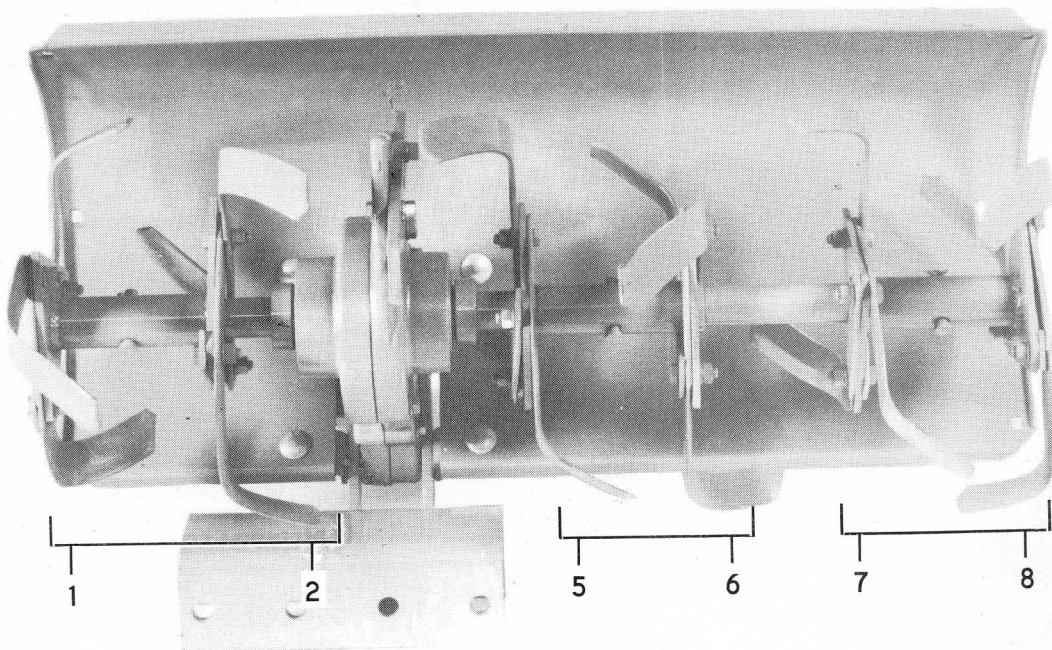

Figure 8. Tiller Reduced to Basic 32" Width (Tine Section 3 and 4 is Removed)
1. 32" Tilling Width - Remove tine section "3 and 4" and relocate section "1 and 2" next to left side of chain case as shown in Figure 8. This reduces the tiller to a basic 32" cutting width with the right wheel track tilled out.